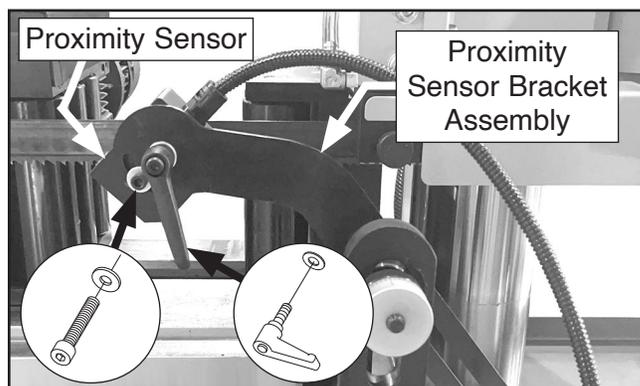

Figure 16. Proximity sensor installed.
3. Attach proximity sensor to proximity sensor bracket assembly with pre-installed cap screw, lock handle, and flat washers (see **Figure 16**).